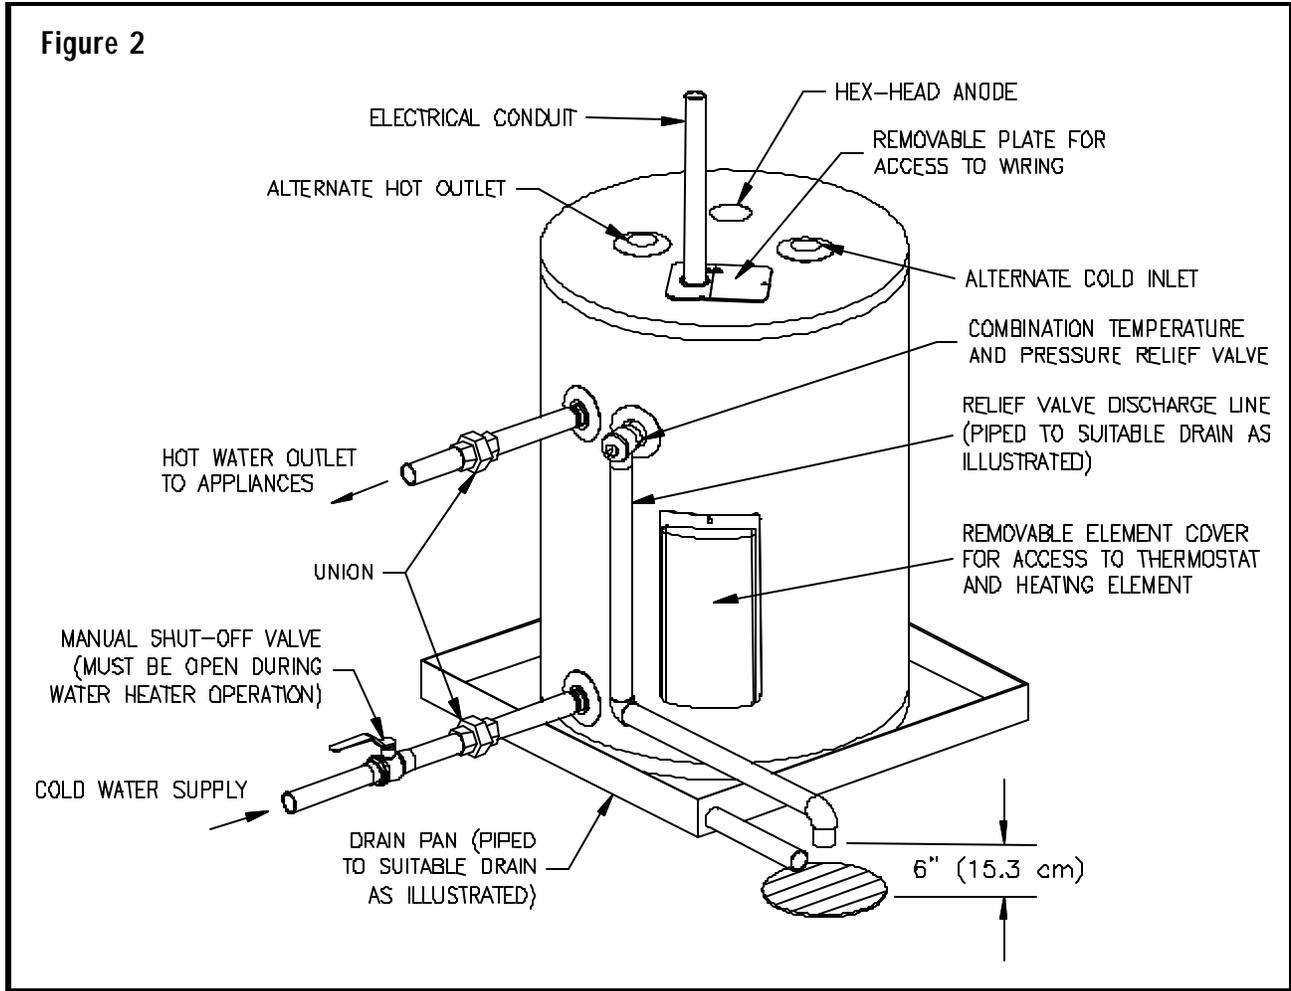

**Figure 1**
**Tall Models (See Figure 1)**